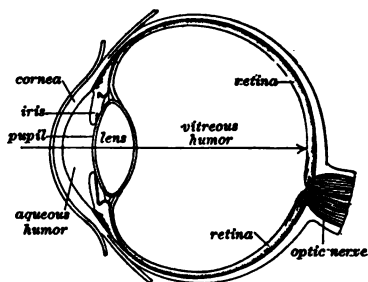

FIG. 430. — Section of the human eye.
**453. The eye.** The human eye (Fig. 430) is essentially a little camera, with a lens system in front, and a sensitive film, made of nerve fibers, at the back.
The structure of the eye is shown in figure 430. There is an outer horny membrane, the **cornea**, holding a watery fluid called the **aqueous humor**. There are also an adjustable diaphragm, or “stop,” called the **iris**, and a **crystalline lens**. The latter is of somewhat higher index of refraction than either the aqueous humor in front or a similar fluid, the **vitre-**